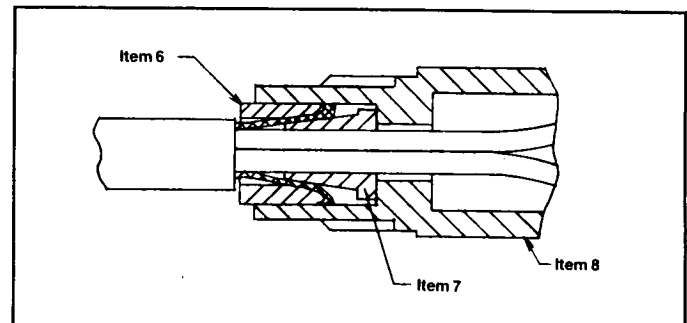

Figure 7
10. Push retaining ferrule (item 6) onto copperweld braid and cable fillers which will force them into the main body and over the split ferrule as shown in Figure 7.
11. Thread back body (item 4) onto middle body (item 8), taking care not to crosstread. Tighten item 4 (1 1/8 in. flats) to a torque of 58 – 63 lb./in. Back body must be within 3/16 in. of shoulder on item 8.
12. Slide items 5, 3 and 2 into back body (item 4) by compressing strain relief grip and sliding it up into back body until it bottoms on sealing gland (item 3). While still compressing the wire grip, push slightly on cable forcing it into connector, then release wire grip.
13. Thread retaining nut (item 1) into back body (item 4), taking care not to crosstread. Preload strain relief grip (item 2) by stretching it back along the cable away from the connector. Tighten item 1 (3/4 in. flats) to a torque of 24 – 28 lb./in. which will cause grip to bite into the outer cable jacket. Maximum torque of 28 lb./in. must not be exceeded and shoulder of retaining nut must not bottom against rear of the back body.
14. Additional lubricant may be added to item 16 to facilitate assembly. The lubricant must meet MIL-S-8660.